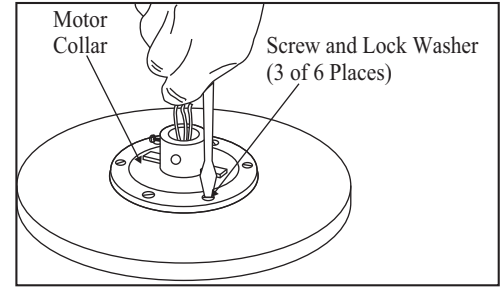

Figure 9
3. Remove three of the six screws and lock washers (every other one) from the collar of top motor (Figure 9).